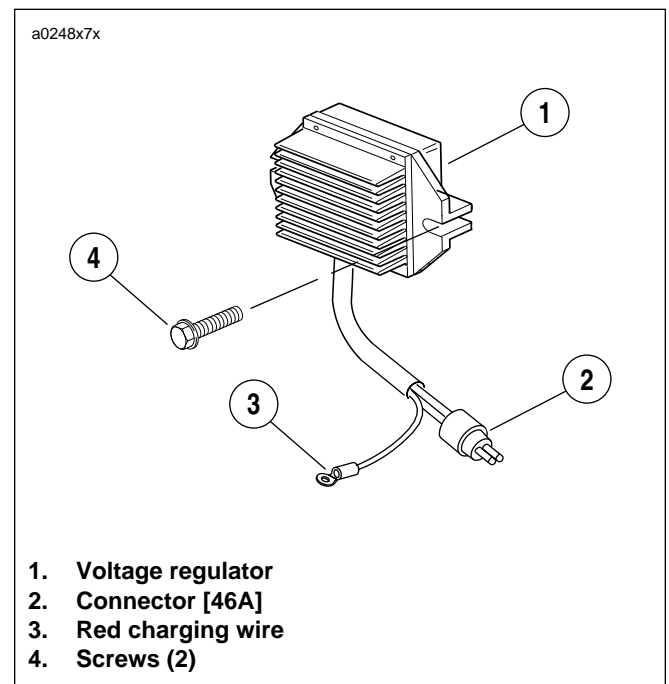

Figure 7-57. Voltage Regulator
- a. See Figure 7-57. Disconnect red charging wire from gold post of main circuit breaker.
2. See Figure 7-57. Attach **new** voltage regulator using two screws. Tighten screws to 48-72 in-lbs (5-8 Nm).